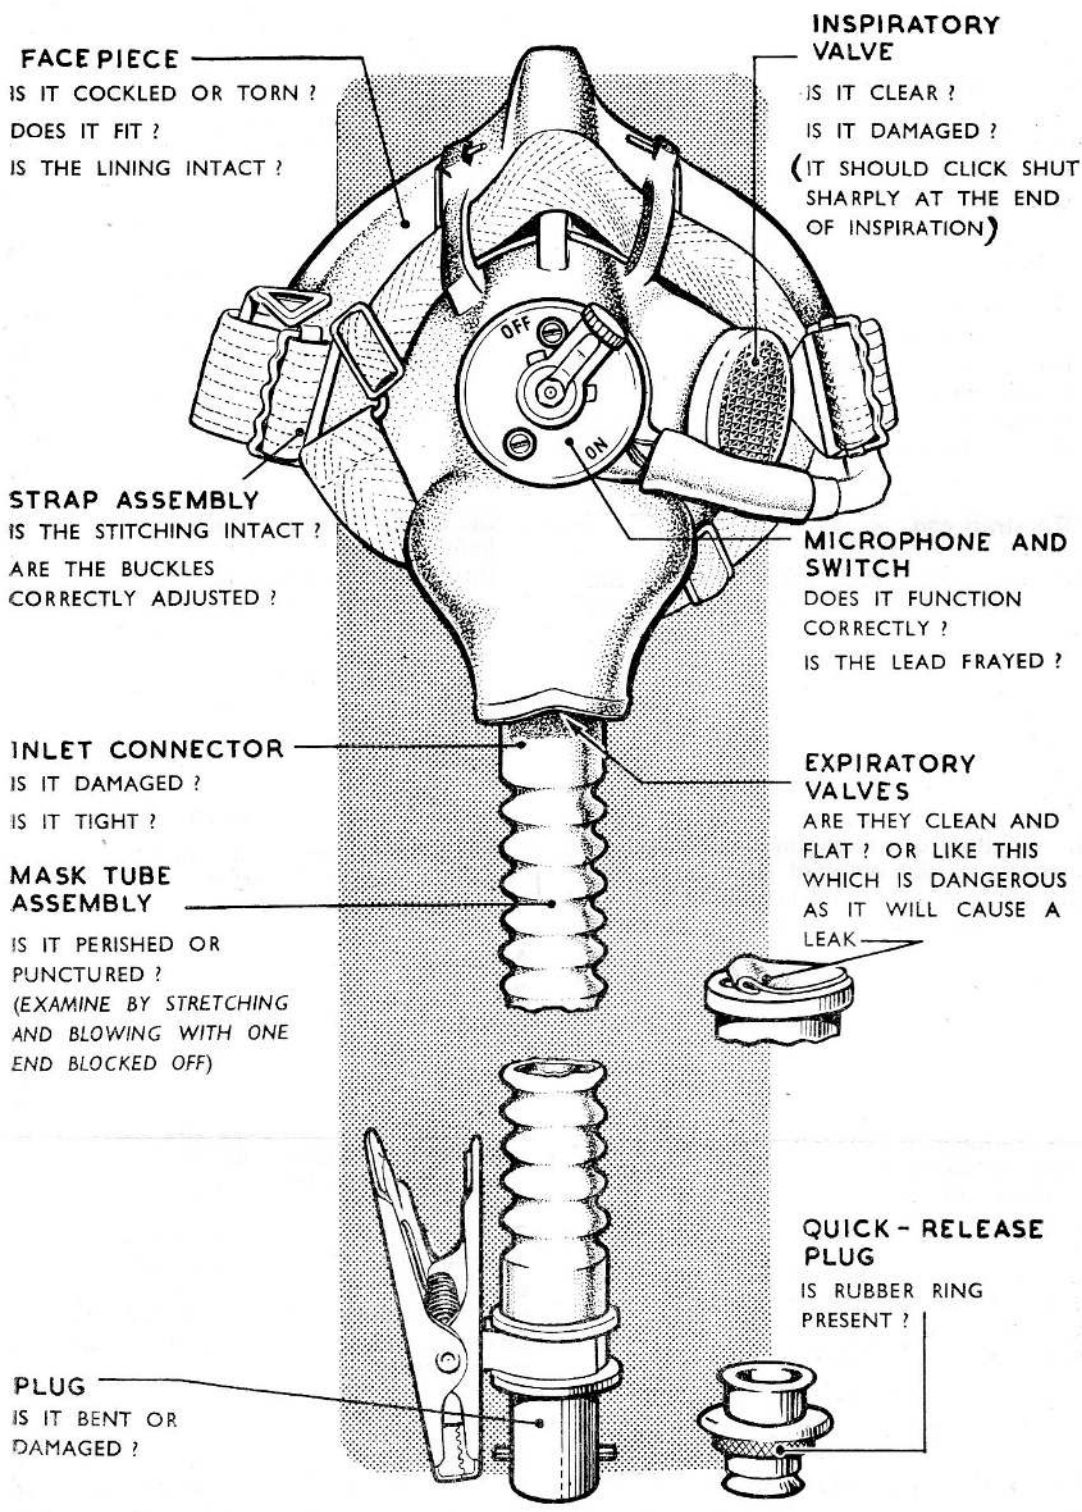

Fig. 13. Points to be noted when servicing the mask
32. Servicing is best performed in a methodical sequence, commencing with the attachment between the mask tube assembly and the main supply and ending with the facepiece and helmet. Fig. 13 indicates the main points to observe.